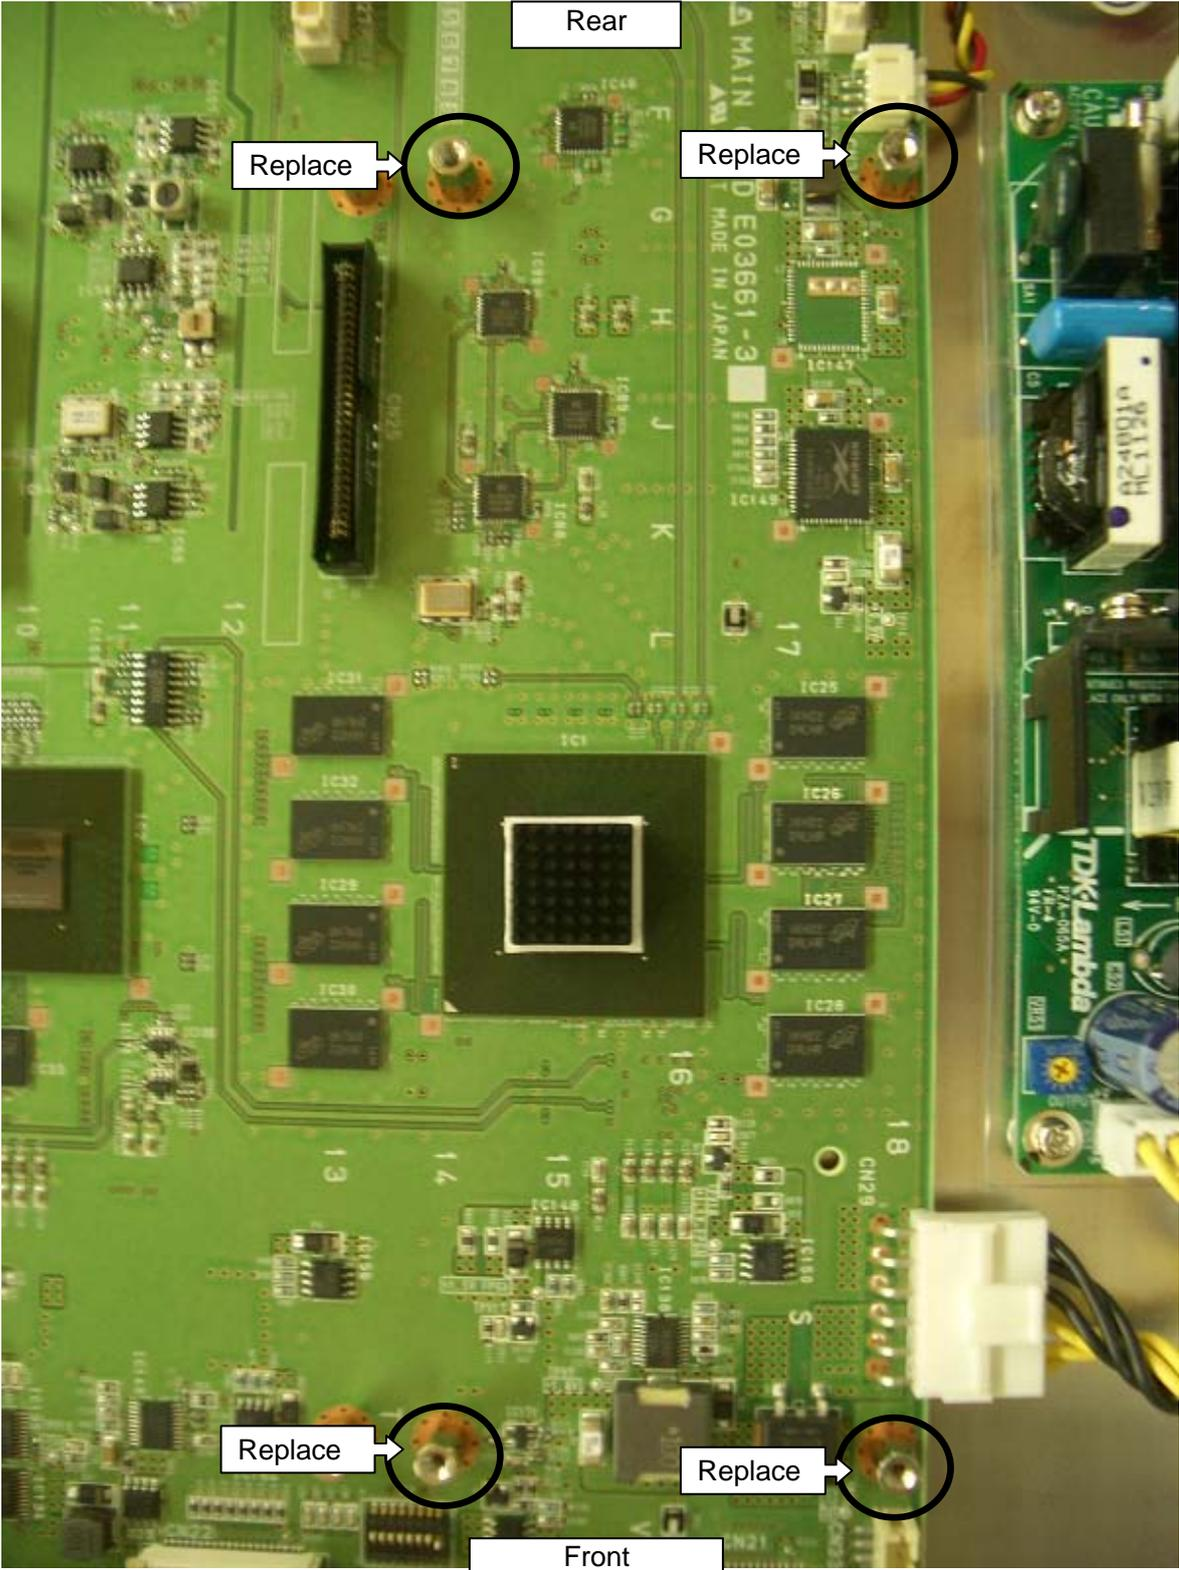

Fig. 25 Standoff replacement
4. Replace the 4 standoffs on the main card with the taller standoffs (9mm) supplied with the FA-95AIO option card. (Fig. 25)